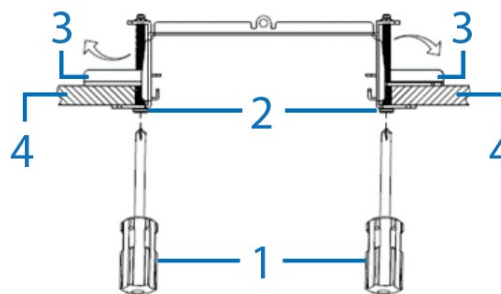

Figure 3
5. Insert the recessed mount through the hole on the ceiling tile and use a screwdriver (1) (Figure 3) to turn the two bracket screws (2) (Figure 3) clockwise until the two locking arms (3) (Figure 3) extend out fully and sit securely onto the ceiling tile (4) (Figure 3).